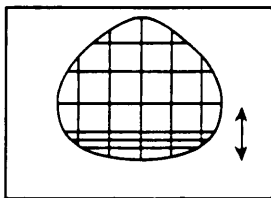

Fig 6.
- Adjust the vertical symmetry to obtain symmetrical scanning between upper and lower picture (Fig 6)